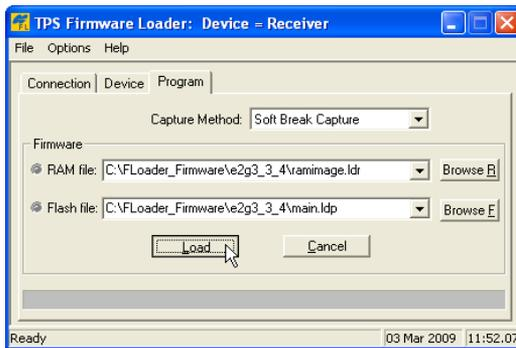

Figure 4-19. Program Tab Settings
- Click the **Program** tab, and select **Soft Break Capture** from the **Capture Method** drop-down list (recommended) (Figure 4-19).
- Browse for and select the receiver board's RAM file and Flash file (Figure 4-19).